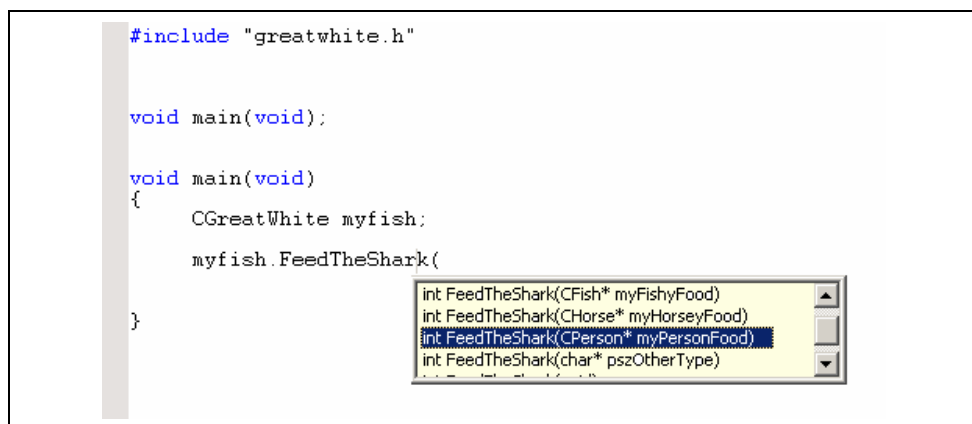

Figure 14.3: Smart -edit function selection
- ☞ If you are trying to use a C++ function then the dialog in Figure 14.3 is displayed when the first open bracket is entered. This dialog allows you to see what functions are available for the current object. Selecting the function automatically enters the remaining parameters for you.